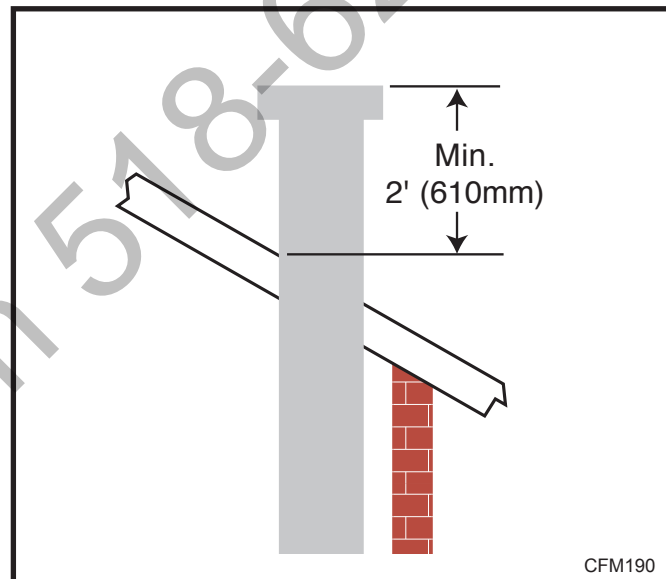

Fig. 34 Minimum termination to roof clearance.
- The minimum height of the vent above the highest point of penetration through the roof is 2' (610 mm). (Fig. 34)
10. Add additional vent lengths for proper height. (Fig. 34)